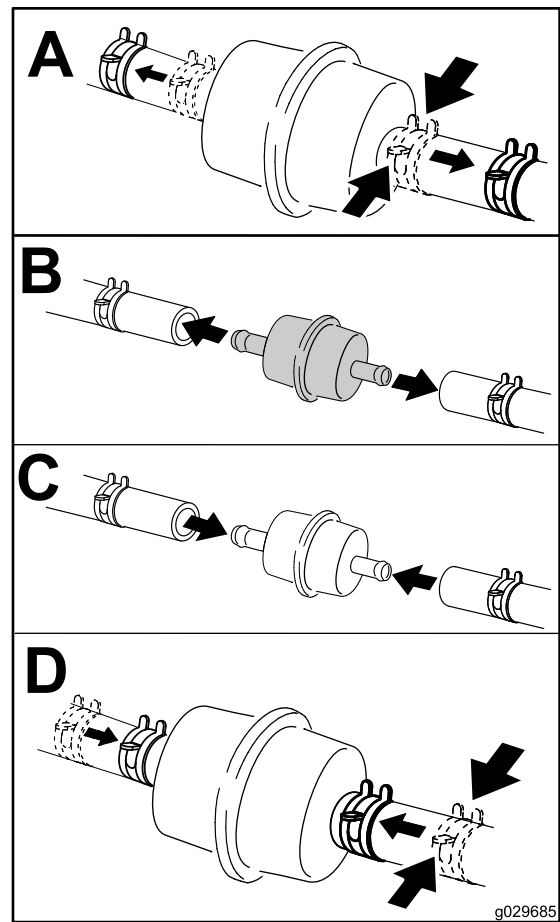

Figure 48
4. Close the fuel-shutoff valve under the seat (Figure 48).